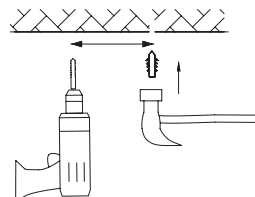

FIG. 8
- Install the anchors into the drilled holes. (Fig. 8)